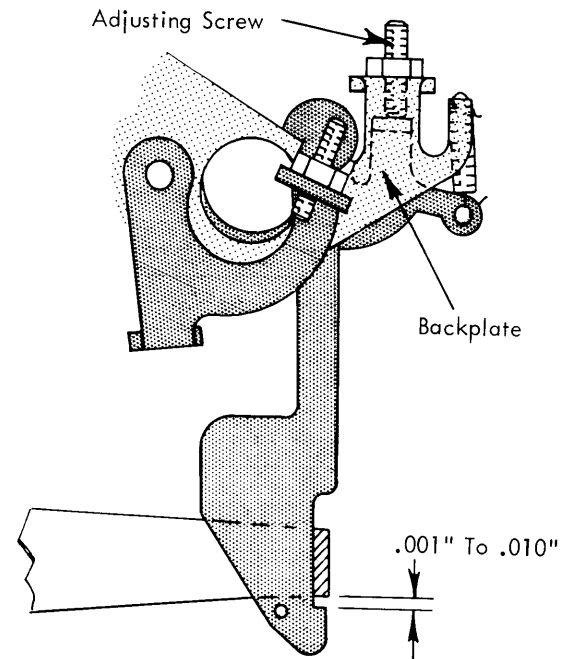
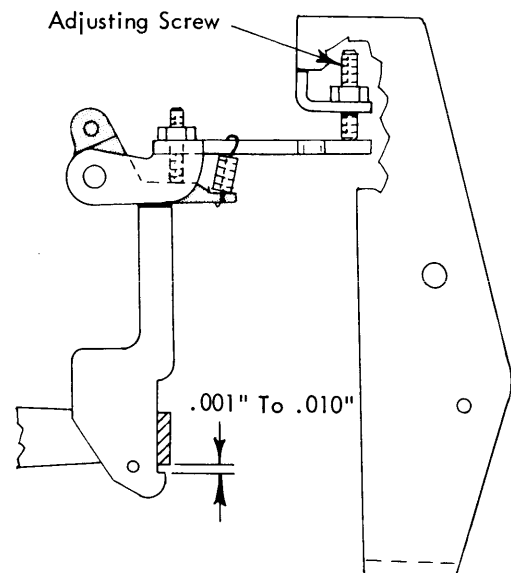

FIGURE 141. Carrier Return Latch Height Adjustment (721)
FIGURE 142. Carrier Return Latch Height (723 And 725)
1. **Carrier Return Latch Height** - With the carrier return/index cam at rest, adjust the carrier return latch height by the adjusting screw on the backplate so that the latch will pass under the cam follower by .001" to .010" when it is operated to the rear. (For Model 721, see Fig. 141. For Model 723 or 725, see Fig. 142.)